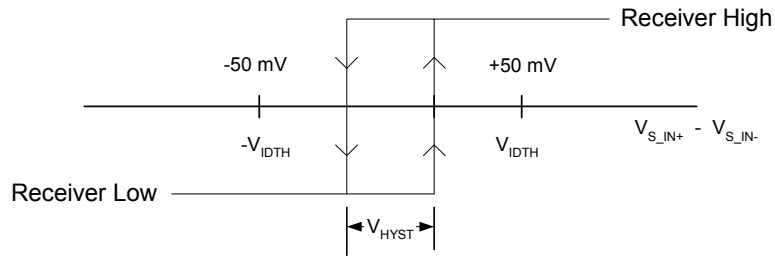

Figure 23. Input Differential Hysteresis
1. Receiver is at high level when  $V_{S\_INP} - V_{S\_INN}$  is greater than  $V_{IDTH}(\min)$  and is at low level when  $V_{S\_INP} - V_{S\_INN}$  is less than  $-V_{IDTH}(\min)$ . A minimum hysteresis of  $V_{HYST}$  is present between  $-V_{IDTH}$  and  $+V_{IDTH}$  as shown in Figure 23.